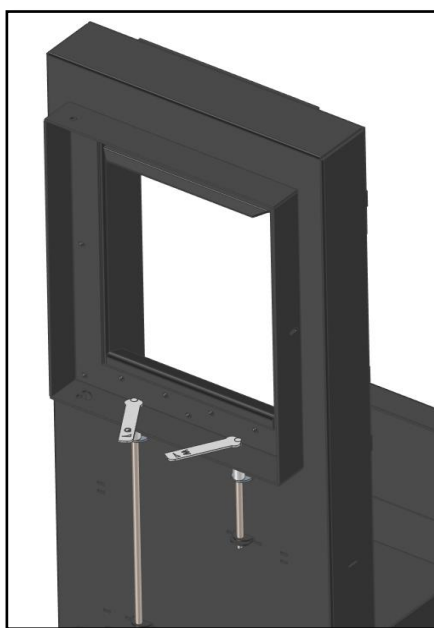
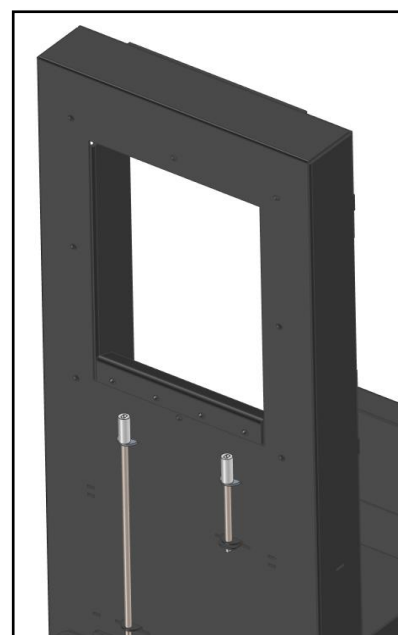

Fig.6
Fig.7
2. Prepare the front for assembly: (a) dismantle the decorative frame (blende), (b) remove the door from the hinges (see Fig. 6), (c) pull the regulator handles up, (d) unscrew the door frame and (e) the top sheet air supply. A properly prepared front is shown in Fig. 7.